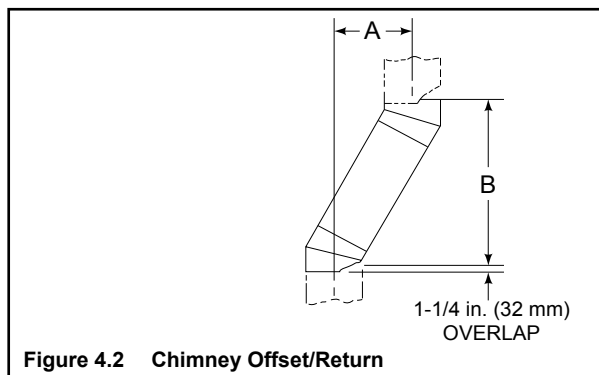

Figure 4.2 Chimney Offset/Return
- Measure the shift needed to avoid the overhead obstruction. Refer to dimension A in Figure 4.2.
Your "A" dimension from Figure 4.2 is 14-1/2 in. (368 mm). Using Table 4.3, the dimension closest to, but not less than 14-1/2 in. (368 mm) is 14-1/2 in. (368 mm) using a 30° offset/return.